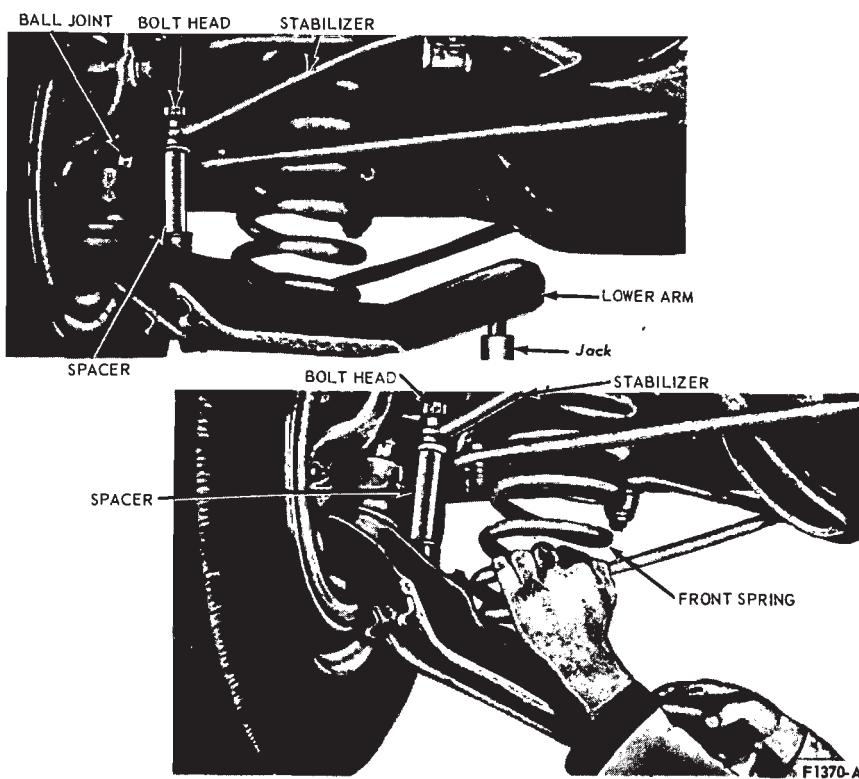

FIG. 9—Removing or Installing Front Spring
7. Carefully lower the jack slowly to relieve the spring pressure on the lower arm, then remove the spring (Fig. 9).